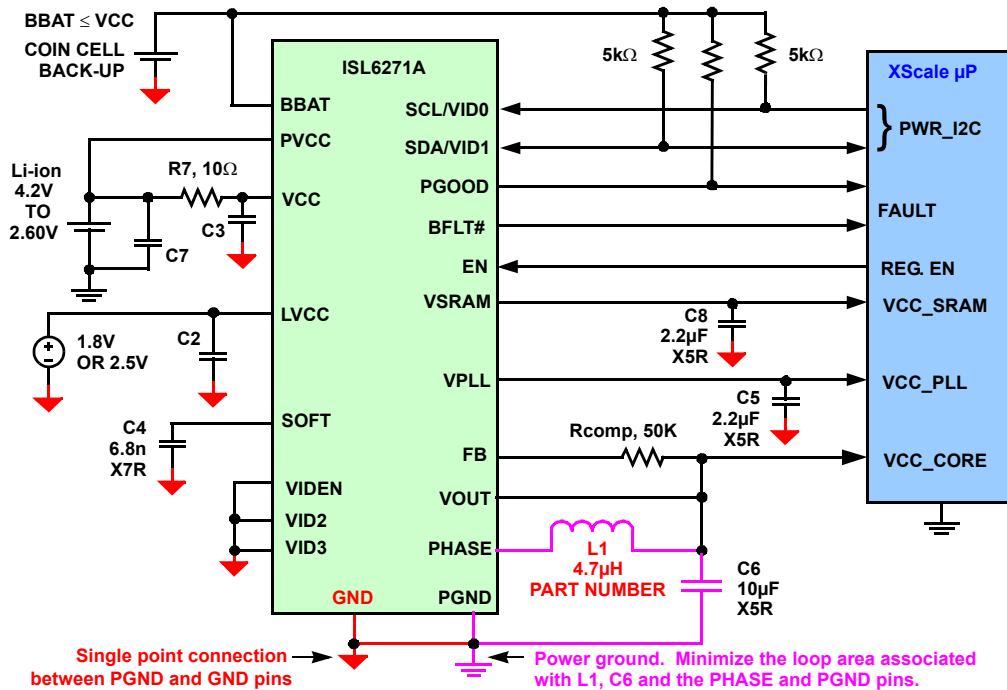

FIGURE 19. TYPICAL APPLICATION CIRCUIT
To minimize switching noise, it is important to keep the loop area associated with the phase node and output filter as short as possible. It is also important that the input voltage decoupling capacitor C7 be located as close to the PVCC pin as possible and that it has a low impedance return path to the PGND pin. In general a good approach to layout is to consider how switching current flows in a circuit, and to minimize the loop area associated with this current. In the case of the switching regulator, current flows from C7 through the internal upper P-MOSFET, to the load through the output filter and back to the PGND pin. *To maximize the effectiveness of any decoupling capacitor, minimize the parasitic inductance between the capacitor and the circuit it is decoupling.* Notice that Figure 19 illustrates the SIGNAL ground with RED highlighting. All components associated with these terminals should be tied together first. Be sure to make only one connection between this net and the PGND pin to avoid ground loops and noise injection points into sensitive analog circuitry.
- Do not leave pins VID2(5) or pin VID3(6) floating when using the I2C bus. Tie these pins to GND (16).
- Make sure that load current on VOUT returns to the pin (7) (PGND). Pin 16 (GND) functions as a quiet return for the LVCC loads. It is internally tied to the device substrate (pin 21). Tie Pin 16 to Pin 7 at a single point as in Figure 19.